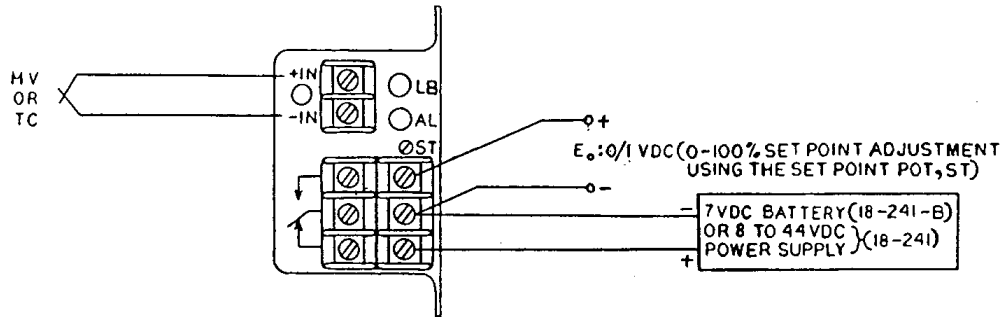

FIG 3.1 - Typical wiring diagram
- 3.2 Connect appropriate DC power source to (+) and (-) power terminals. Also connect the thermocouple wire or the millivolt source to (+) and (-) input terminals. Refer to FIG 3.1 for detailed wiring instructions.